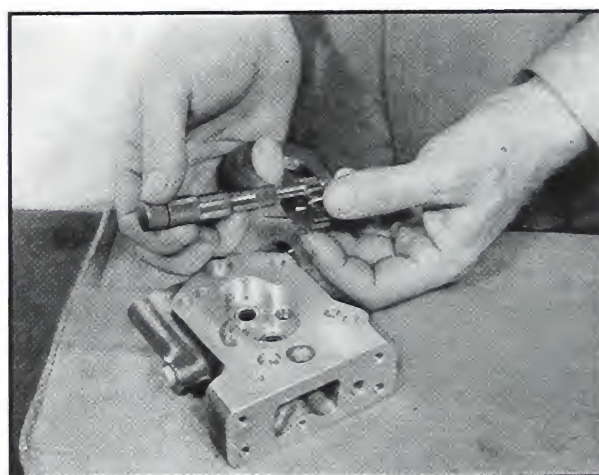

Fig. 5-287. Checking gear thickness
3. No. 2 gears should not be used with new housing if worn thinner than .389. Fig. 5-287.